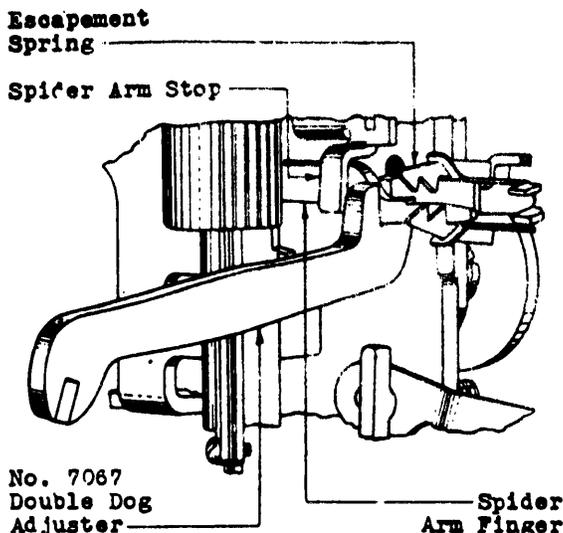

Fig. 11 - Method of Tilting the Spider Arm Finger
(1) If the spider arm finger is not parallel to the frame when in the normal position, adjust it as required with the No. 7067 double dog adjuster.
(2) To tilt the spider arm finger apply the No. 7067 double dog adjuster as shown in Fig. 11 and twist the finger slightly by bearing upward on the tool.